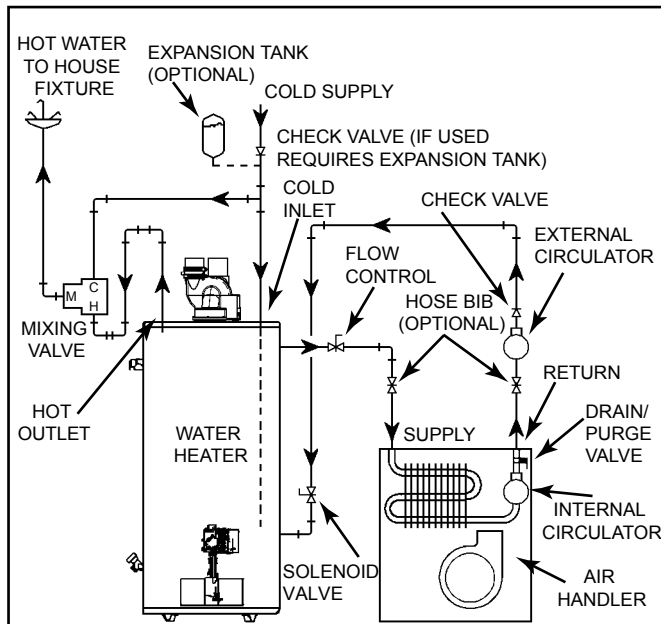
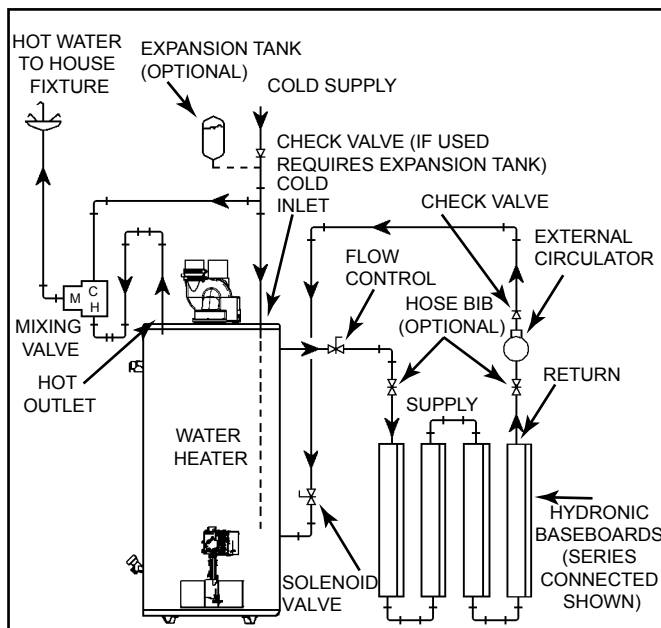

Figure 17.
Figure 18.
8. “Combo” Heating Systems require higher water temperatures than other applications. When the system is used to supply water for Combo Heating applications, a means, such as mixing valve, must be installed to temper the water in order to reduce scald hazard potential (see Figure 17 & Figure 18).
- A. A fan coil/air handler (Figure 17).
- B. A hydronic baseboard (finned tube) loop/In floor heating (Figure 18).